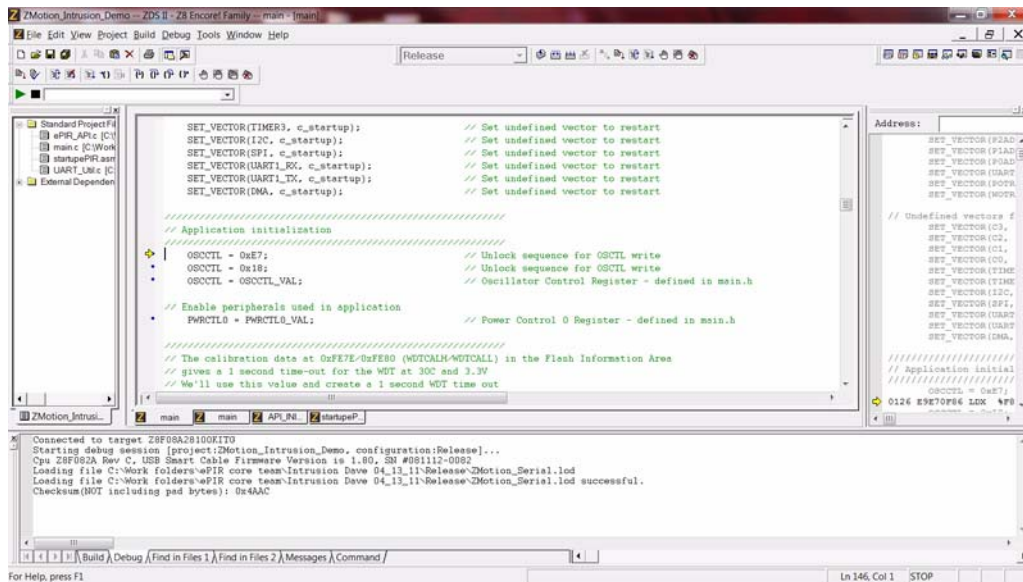

Figure 7. ZDSII's Debug Output Window for the ZMOTION_Basic project
- An information notice may appear, indicating that the silicon is not the latest version. This occurrence is normal and is not an issue. Click **OK** to continue. You should see a message in the Debug Output Window indicating that the load was successful, as shown in Figure 7.